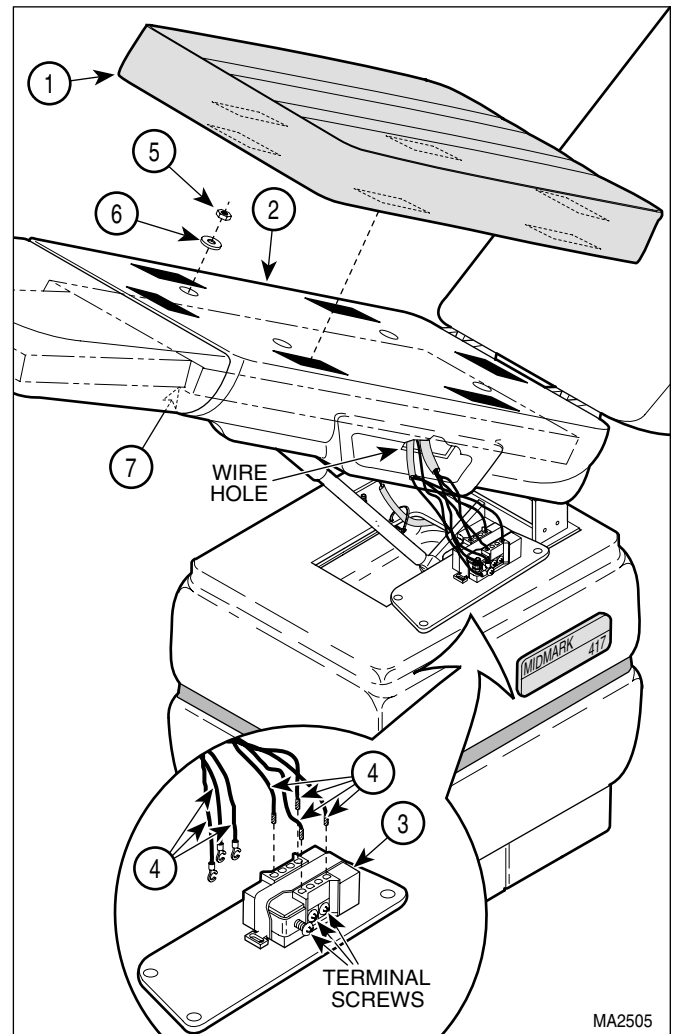

Figure 4-33. Plastic Seat Section
- (1) Unplug power cord from wall receptacle.
- (2) Remove a hand control plug-in port from each side of chair (Refer to para 4.7).
- (3) Remove control disable switch (Refer to para 4.6).
- (4) Remove upholstered seat section (1, Figure 4-33) from plastic seat section.